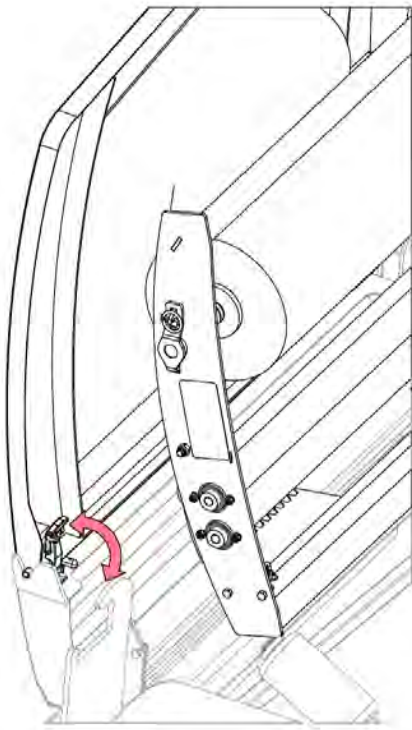

Fig.2
- Unfasten rubber latch from inner rear of left safety guard. See Fig.2.